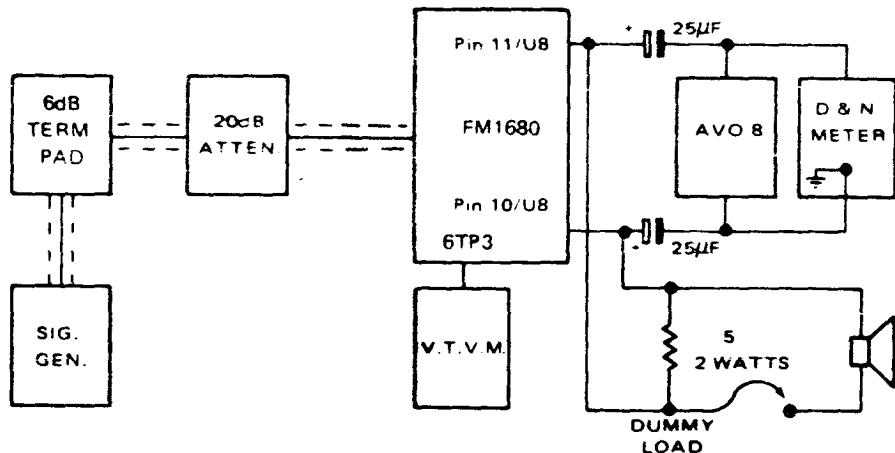

Figure 6
1. Set up the equipment as shown in Figure 6.
4. Adjust trimmers 4C1, 4C3, 4C6, 4C10 and 4L9 for maximum S/N ratio while gradually reducing the output of the signal generator until a S/N ratio of 32 dB (N) or 40 dB (NW) is obtained with an input of 1 μV.
7. Tune 4C3 for maximum S/N ratio while decreasing the output of the signal generator to maintain a S/N ratio of 32 dB (N) or 40 dB (NW).
10. Re-tune 4C6, 4C10 while decreasing the output of the signal generator until a S/N ratio of 32 dB (N) or 40 dB (NW) is obtained.